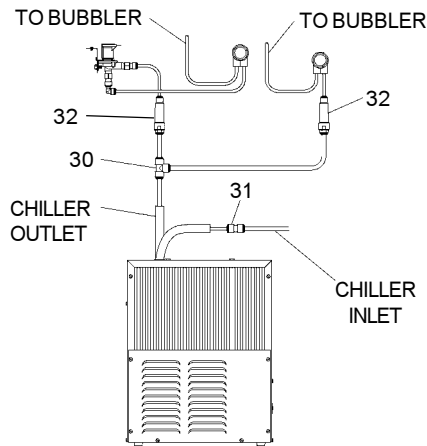

FIG. 8
3. **ENOA MODELS:** Make connection between remote chiller and building supply line. Inlet port is marked on the chiller (1/4" O.D. copper tube). Bend the copper tube (provided) at an appropriate length from chiller to opening in frame. Install a 1/4" x 3/8" union (provided) on the marked chiller inlet port. Connect building supply line to union. (See Figure 8)
5. **Install** the fountain. Remove access cover plate on underside of fountains and save the screws. Mount the fountain to the upper panel and the wall frame with (4) 5/16" x 3/4" (19mm) long bolts and nuts (provided). Tighten securely.
7. **ENOA MODELS:** Make connections between remote chiller outlet tube and fountain strainer. Outlet port is marked on the chiller (3/8" O.D. copper tube). Install a 3/8" x 3/8" union (provided) on the marked chiller outlet port. Insert the 3/8" unplated copper water line (provided) into the union and the inlet side of the strainer by pushing it in until it reaches a positive stop, approximately 3/4" (19mm). Connect 1/4" copper tubing coming from fountain to the strainer. Turn on water supply and check for leaks. **DO NOT SOLDER TUBES INSERTED INTO THE STRAINER AS DAMAGE TO THE O-RINGS MAY RESULT.** (See Figure 8).
10. **Check** stream height from bubbler. Stream height is factory set at 35 PSI. If supply pressure varies greatly from this, remove items 3 & 4 and adjust the screw on regulator (Item 12). Clockwise adjustment will raise stream height and counter-clockwise will lower stream height. For best adjustment stream should hit basin approximately 6 1/2" from the bubbler.
11. **Mount** lower panel. Loosen the (2) #10-24 x 5/8" (16mm) screws at frame bottom lip. Slide upper tongue of lower panel under lower edge of already installed upper panel. Tighten previously loosened screws securely.